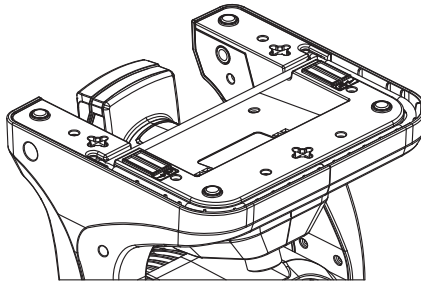

Fig.2
2. Use the key-holes located on the bottom of the base to hang the fan on a screw. (as Fig.2)